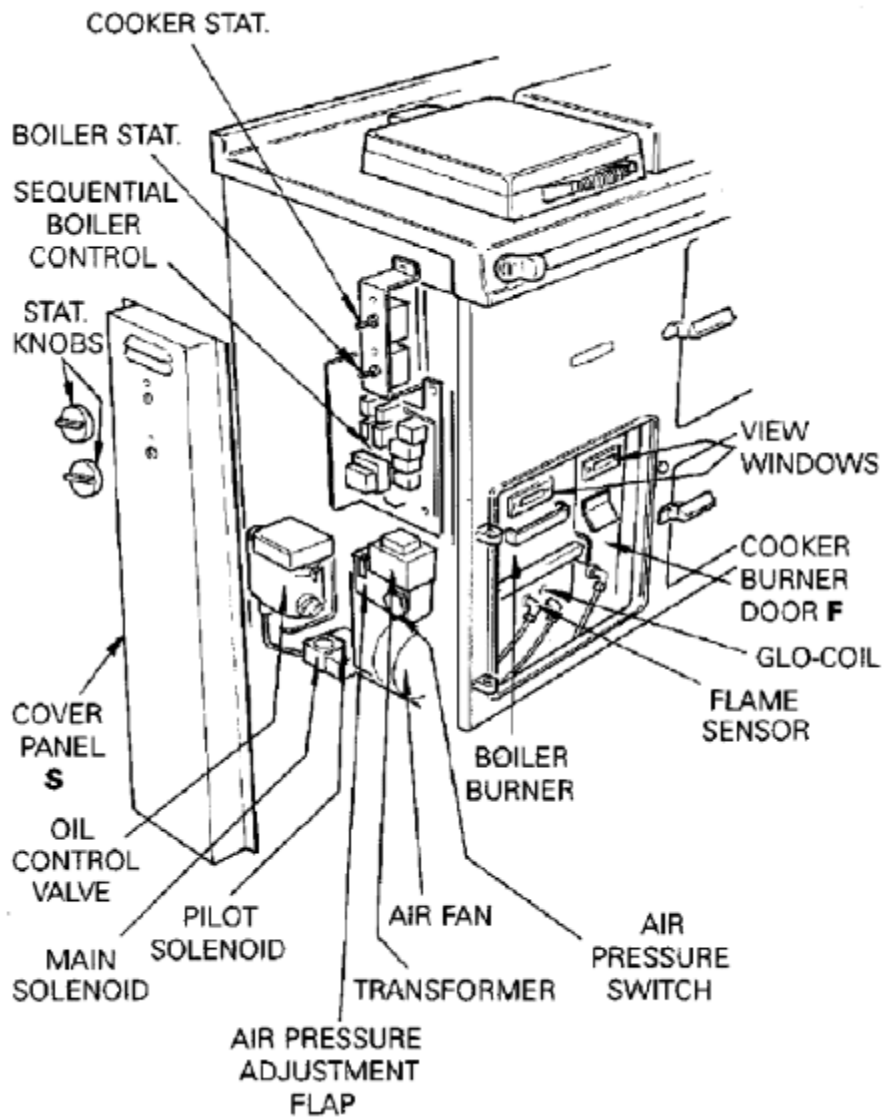

Fig.16 DESN 510388 A
- a. Isolate the electricity supply (switch **OFF** and remove plug), remove the side cover panel via its fixing screws. See Fig.16.